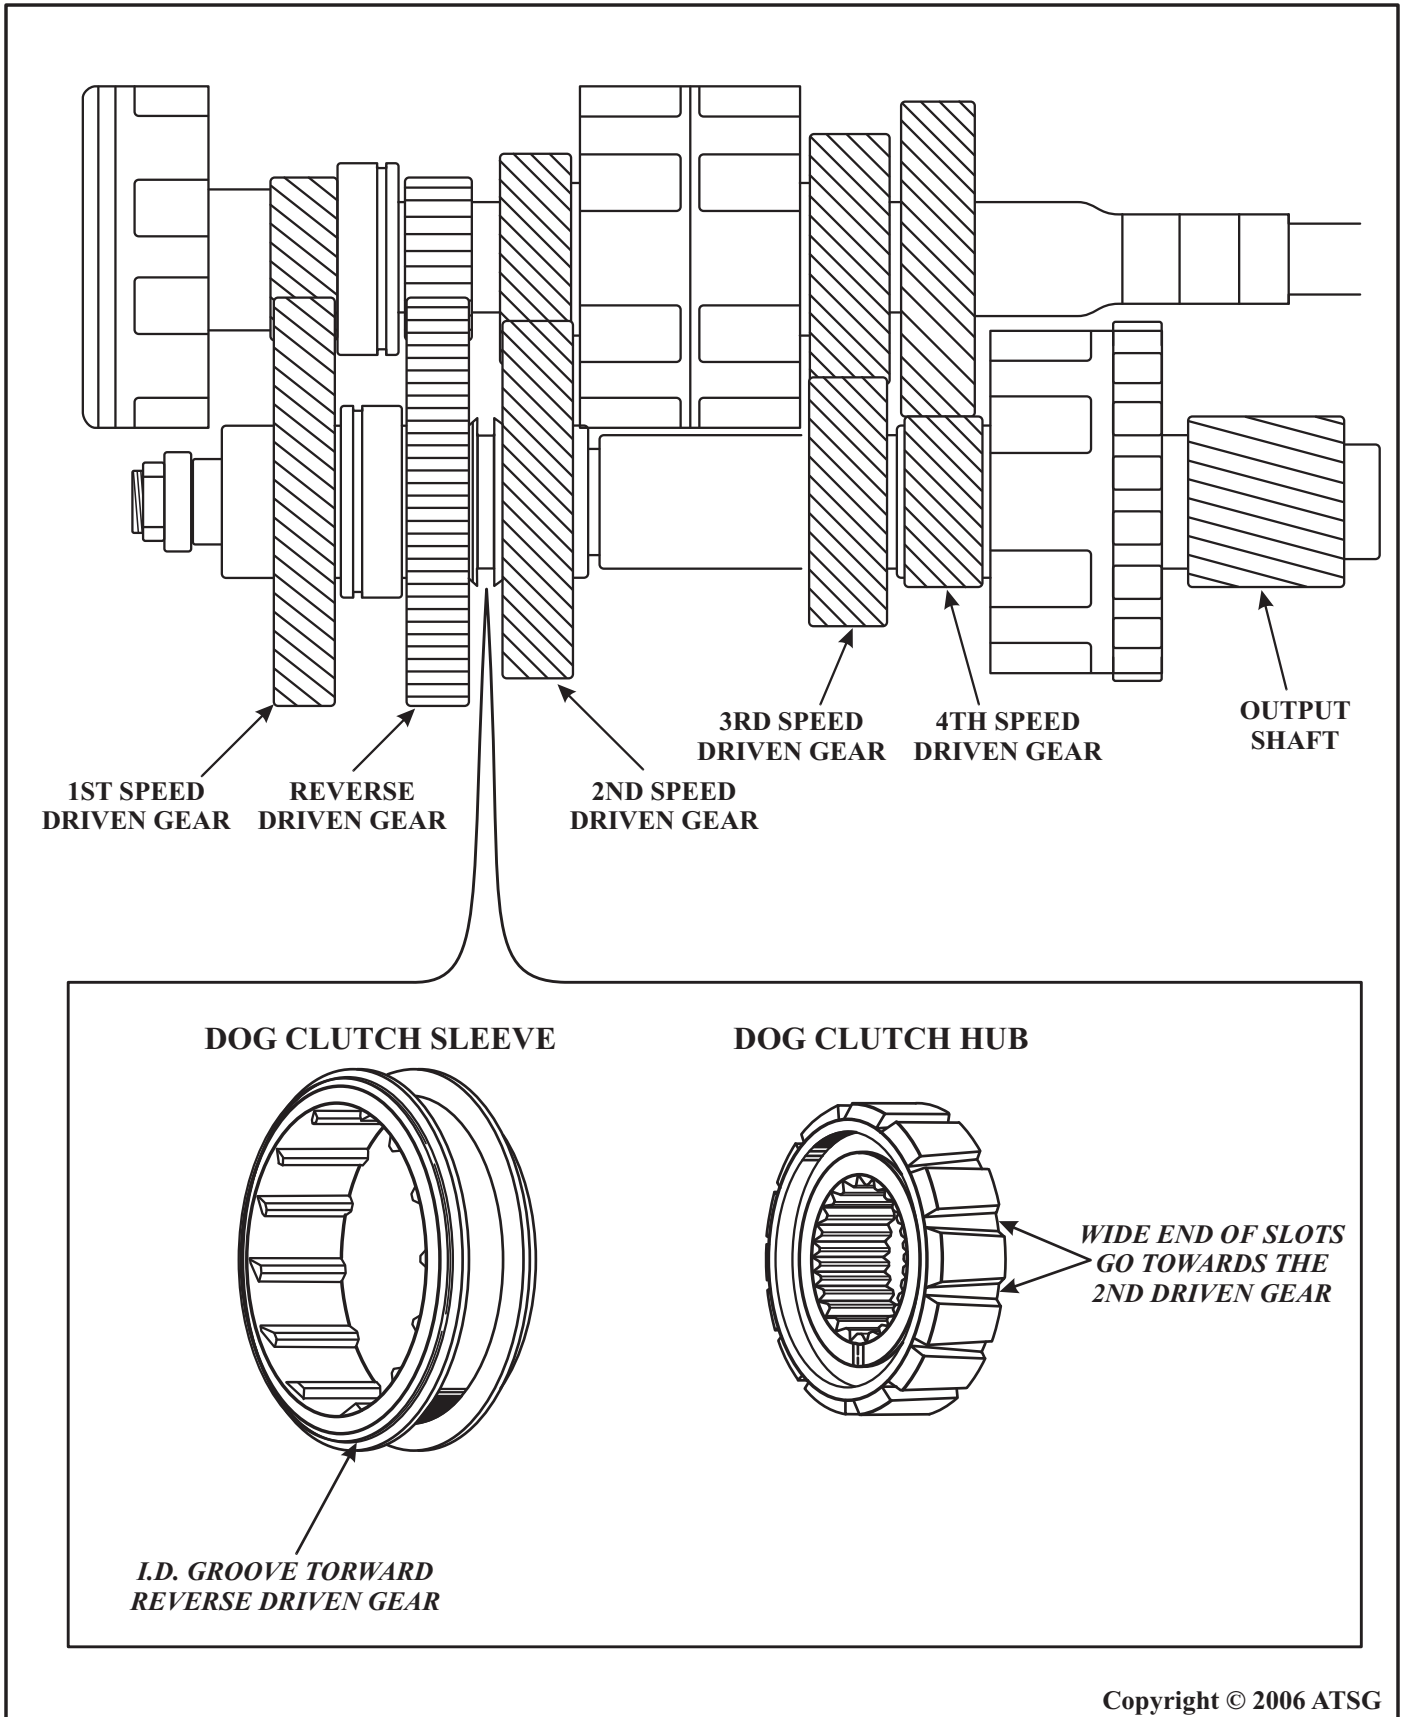

Figure 2
**CORRECTION:** The Dog Clutch Hub *must* be installed with the "Wide" end of the "Slots" towards the 2nd Driven Gear, as shown in Figure 2.
The Dog Clutch Sleeve *must* be installed with the I.D. groove towards the Reverse Driven Gear, as shown in Figure 2.
- (1) ACTUATORS - 4th Design now has redesigned screens added to the control pressure side of the actuators as illustrated in Figure 1, and has the same resistance values as the 2nd and 3rd Design actuators, and is identified *without* the previous design plastic top or is called the Black Top Actuator. The 1st and 2nd Design actuator are shown in Figure 2. The 3rd and 4th Design actuator are shown in Figure 3. Actuator locations on the valve body are shown in Figure 4.